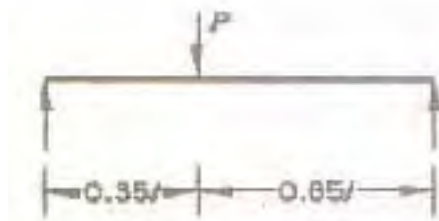

Figure 1
- (b) Determine the mid-span displacements and slopes at the supports in the beams shown in figure 1 using the method of integration. Assume constant flexural rigidity for the beams. [15]